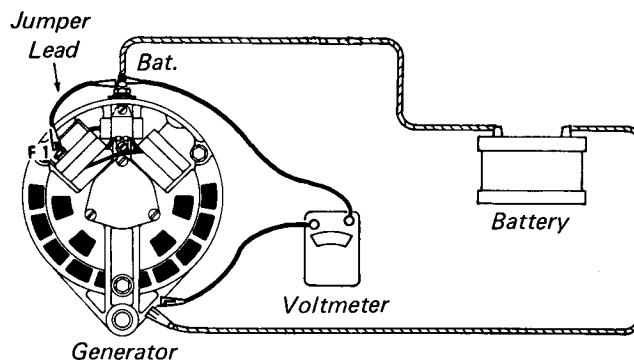

Fig. 4
Step 8. Output test: Disconnect field wire from alternator ("F" terminal) and connect a jumper wire from battery terminal to the field terminal. See Fig. 4. Run engine at idle RPM. If voltage does not read above battery voltage, alternator is defective and must be repaired or replaced.